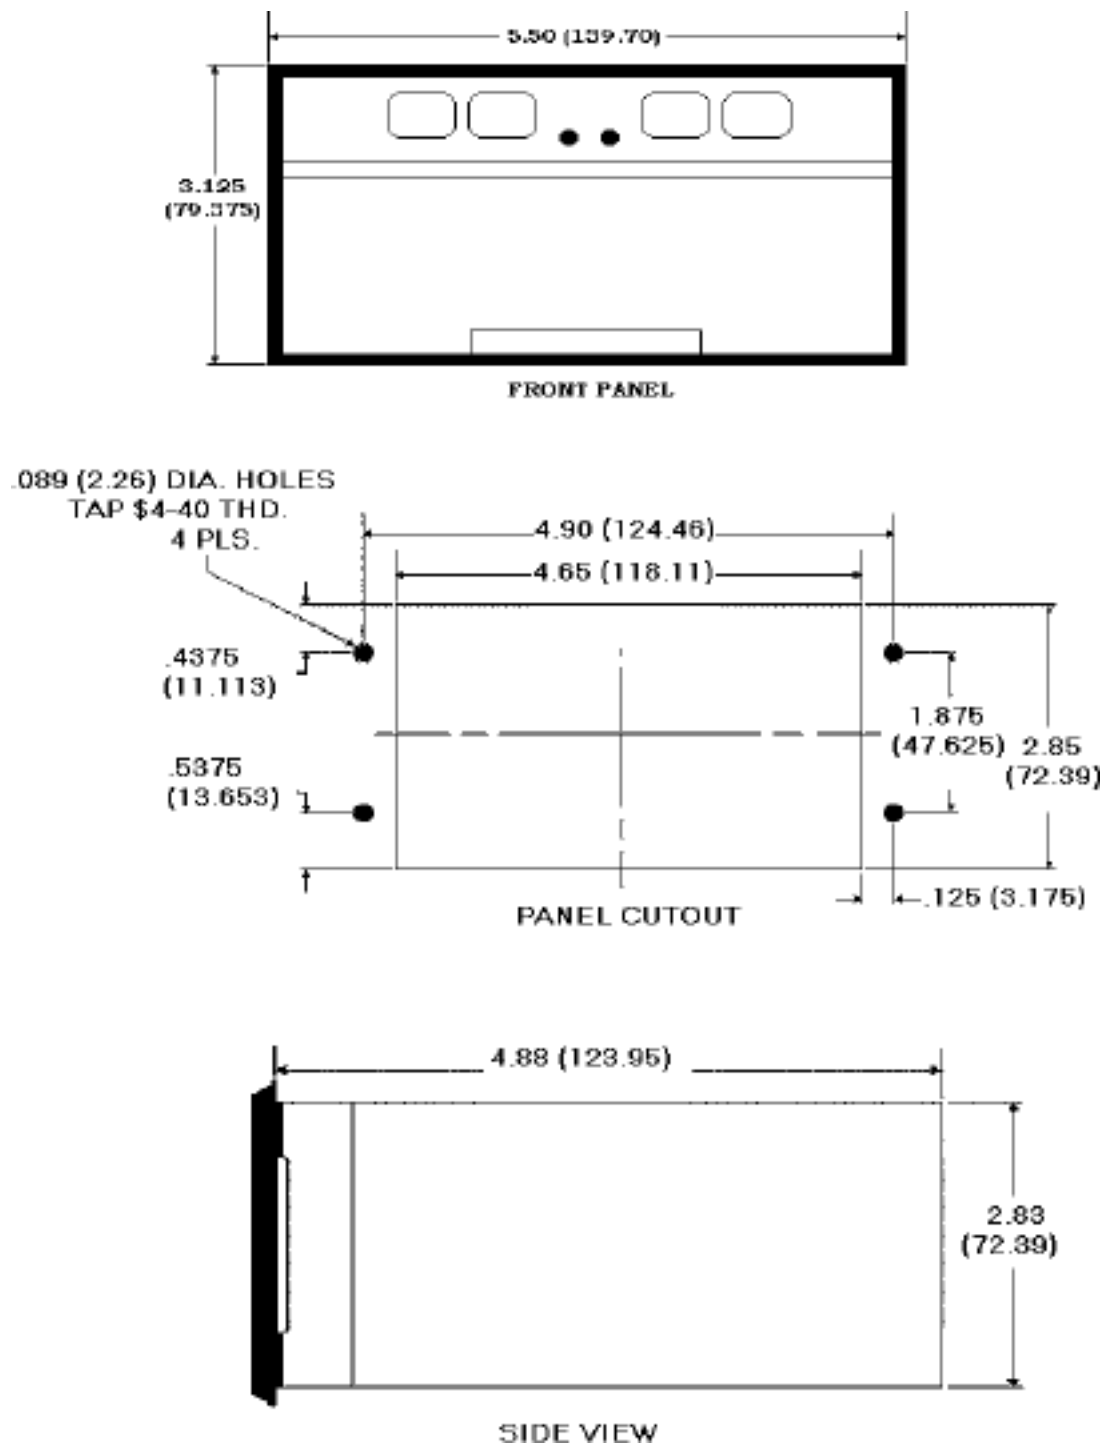

Figure 3 Keltron TLC series printer mounting dimensions
1. Cut panel opening and drill mounting holes to specified dimensions (refer to Figure 3). Remove burrs and clean around panel opening.